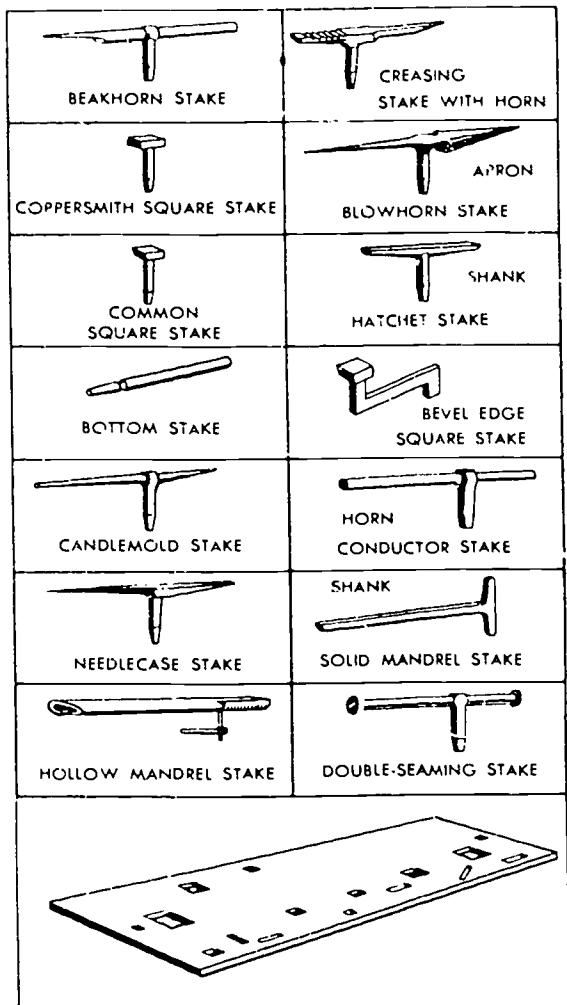

Figure 3-19. Bench plate and stakes.
**Bench plate and stakes.** Much of the work done in the sheet metal shop requires some handwork, such as shaping, seaming, and riveting. To do this work, small anvils, referred to as stakes, have been designed to perform many types of shaping and seaming which cannot be done by machines. These stakes, which consist of a horn, head, and shank, are fastened either in a vise or to a bench plate. Figure 3-19 shows a bench plate with a set of stakes designed to do almost any sheet metal forming that can be done by hand. The stakes described in the following paragraphs are the ones most often used. Other stakes include the beakhorn, common square, hatchet, conductor, coppersmith square, bottom, bevel edge square, and solid mandrel stakes.